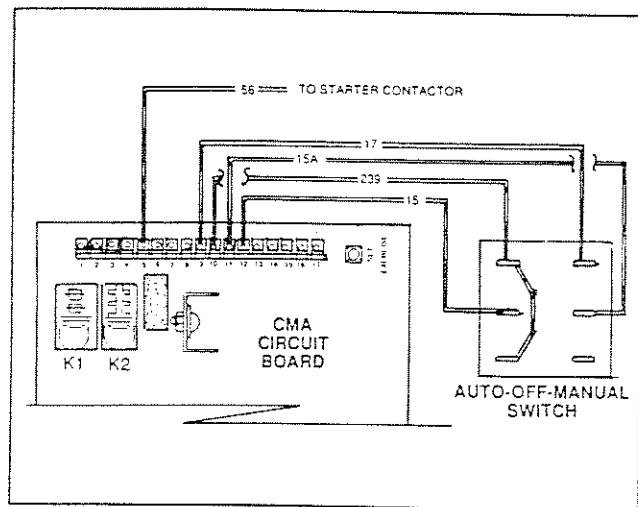

Figure 4. The Wire 56 Circuit
2. Gain access to the control module assembly (CMA) so the circuit board crank relay (K1) and run relay (K2) can be observed. The CMA is mounted on the rear panel of the generator enclosure. See Figure 4 on Page 6.1-2 for location of circuit board crank and run relays.